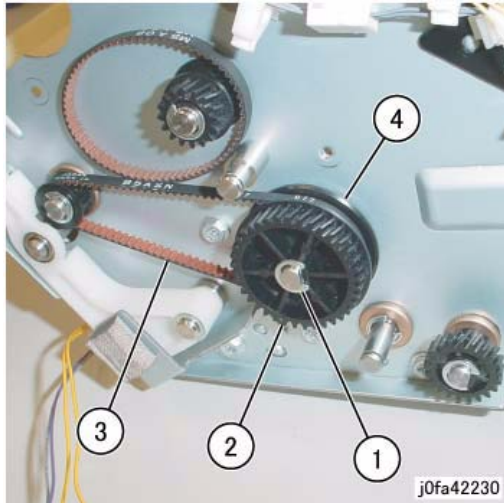

Figure 2 Removing the Gear Pulley (j0fa42293)
4. Remove the Gear Pulley. (Figure 2)